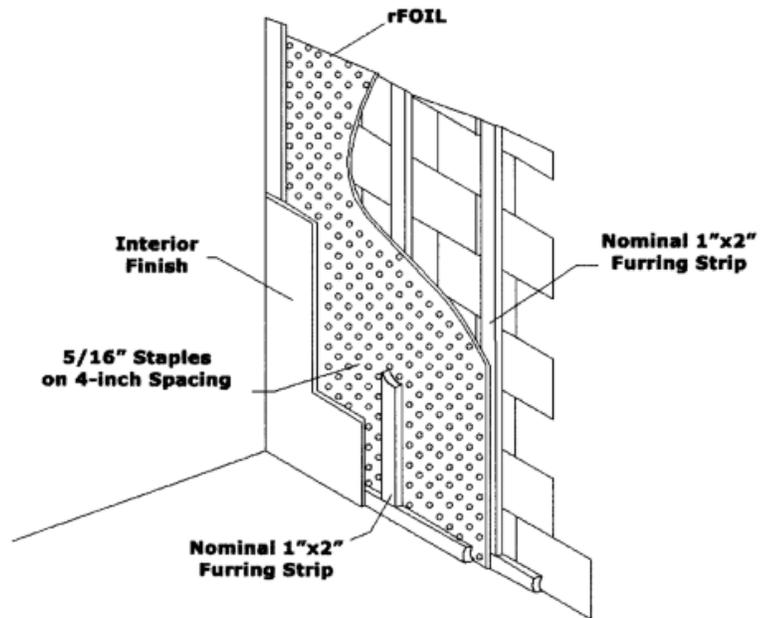

FIGURE 3—DOUBLE FURRED BLOCK WALL APPLICATION
**4.1.2.3 Furring Strip Block Wall Application:** The block wall assembly consists of nominal 1-by-2 furring strips attached vertically at a maximum of 16 inches (406 mm) on center to minimum 8-inch-thick (203 mm) block wall. The insulation is installed parallel to the furring strips using fasteners noted in Section 4.1 of this report. A second layer of 1-by-2 furring strips is placed over the insulation and directly over the existing furring strips using 1 1/4-inch-long (38 mm) nails. Minimum 1/2-inch-thick (12.7 mm) gypsum wallboard complying with ASTM C36 is attached over the furring strips in accordance with the applicable code to create two 3/4-inch (19 mm) air spaces. Inside surface-to-surface thermal resistance of the assembly is noted in Table 1 of this report. See Figure 3 of this report for an illustration of the assembly.